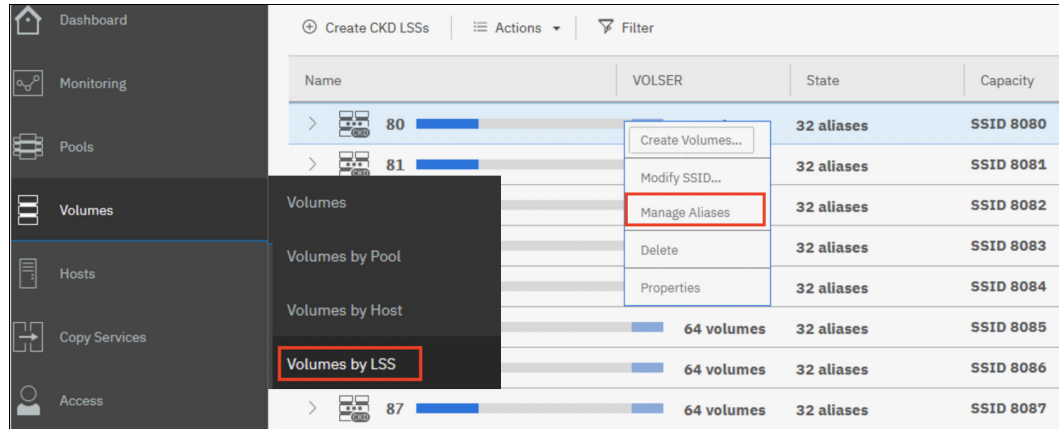

Figure 9-78 Creating aliases for the LSS
2. Select the LSS for which to create aliases and right-click the LSS, as shown in Figure 9-78 on page 301.